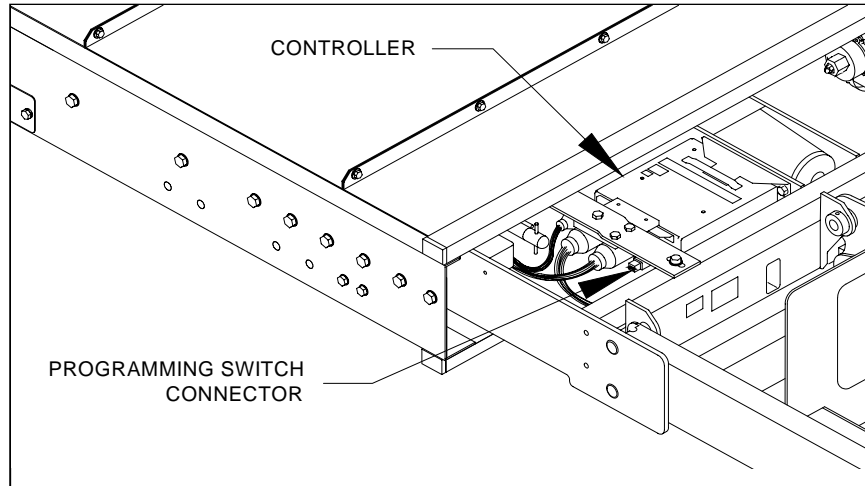

FIGURE 2-5: PROGRAMMING SWITCH CONNECTOR
- 7) Refer to **Figure 2-5**. The mating connector for the programming switch is attached to the underside of the controller bracket. The connector is protected with a removable plug. Connect programming switch to connector.
- 3) Refer to **Figure 2-5**. The mating connector for the optional programming switch is attached to the underside of the controller bracket. The connector is protected with a removable plug. Connect programming switch to connector.